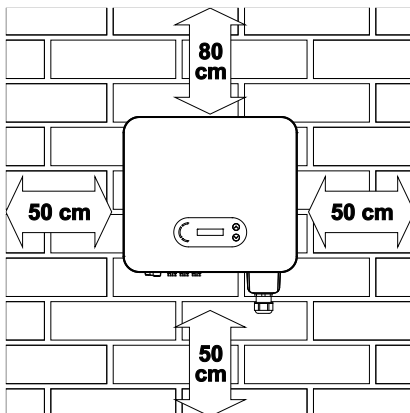

Figure 4-2 Wall clearances for single inverter
**Step 1:** Remove the insulation layer with an appropriate length using a wire stripper shown as figure 4-2)